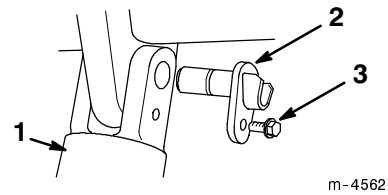

Figure 5
2. Remove the bolt securing the upper tilt cylinder pin (Fig. 5).